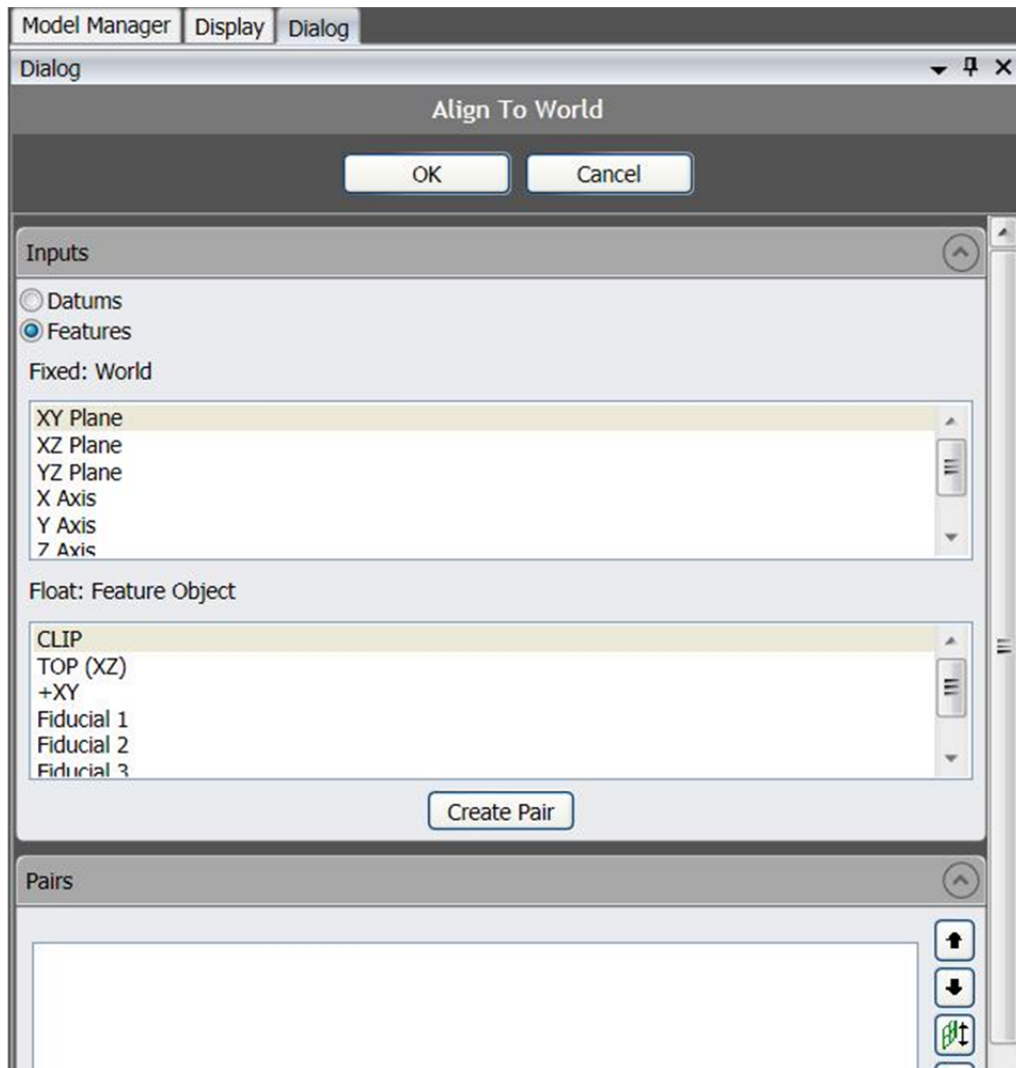

Figure 8. Alignment Window for Pairing
- Use the Alignment tab > Align to World option to align the world coordinate system to your desired SCS. Alignment is achieved by pairing the measured datums to known world features such as planes, coordinate axis, or the origin (Figure 8). **The first pair will take priority.**